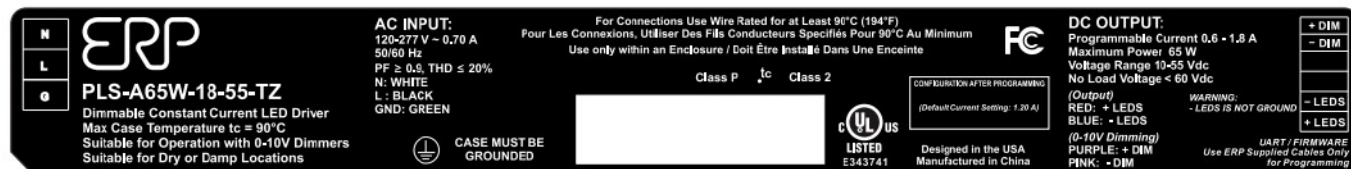

Figure 19
- The PLS-A-A65W-18-55-TZ is used in figure 19 as an example to illustrate a typical label.